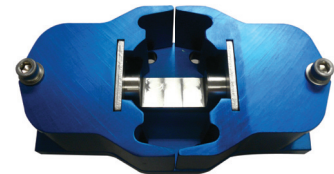

Figure 9
10. Turn assembly over, and place shorter bolts and washer assembly into heads and tighten finger tight. DO NOT tighten completely at this time. Figure 9 shows assembly turned over and shorter bolt and washer in place.